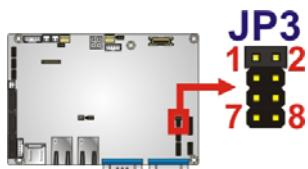

Figure 4-4: COM2 Port Mode Setting Jumper Location
**Jumper Location:** See **Figure 4-4**